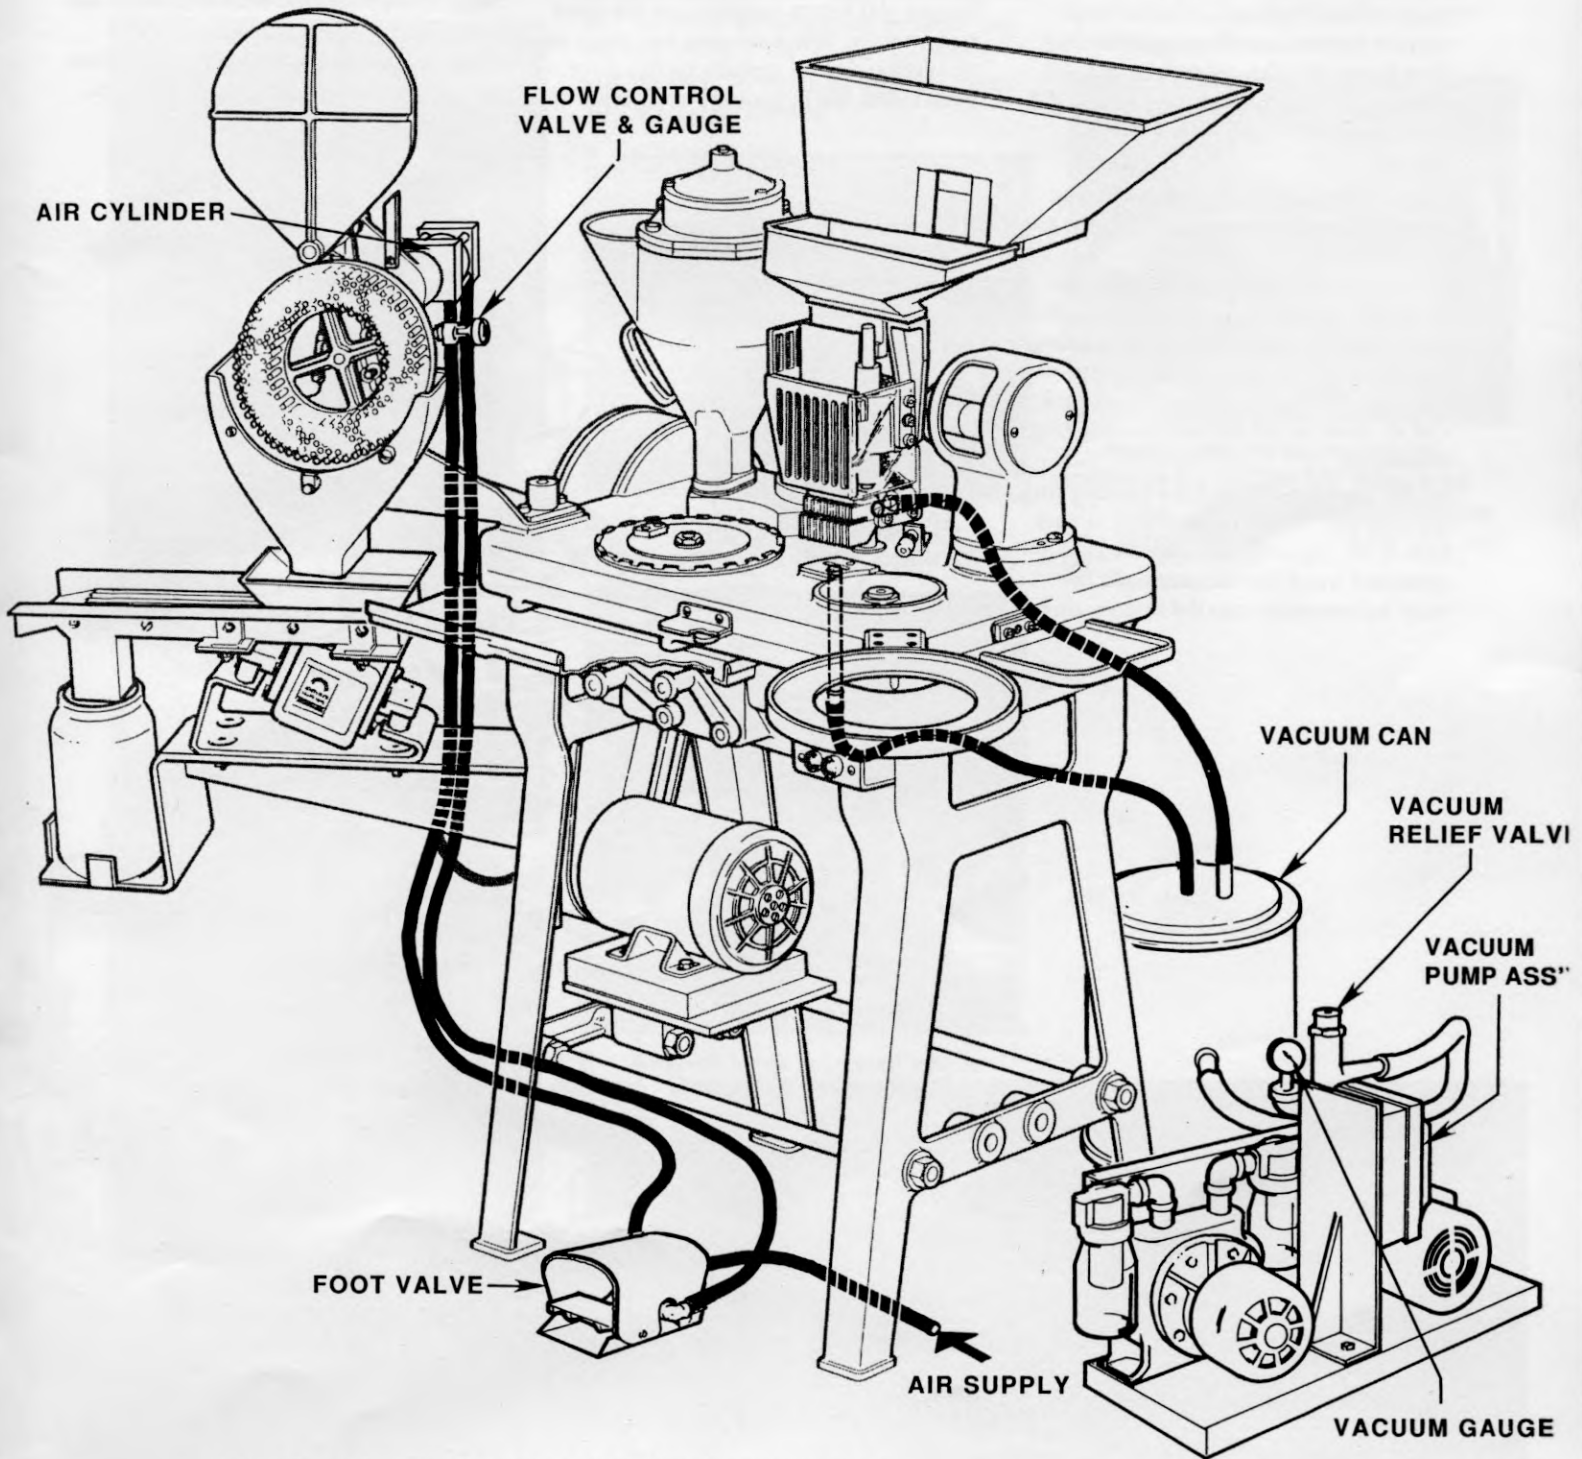

FIG. 1A - TYPE 8 VACUUM ASSEMBLY HOOKUP
D. Now connect the vacuum pump to the Type 8 machine according to the diagram in Figure 1A. Connect one plastic vacuum hose from the vacuum outlet on the pump to the side connection on the vacuum canister. Connect the second plastic hose from the top vacuum connection on the canister to the vacuum inlet on the bottom of the machine bed. Connect the rubber hose from the petcock valve on top of the vacuum canister to the rear of the raceway.